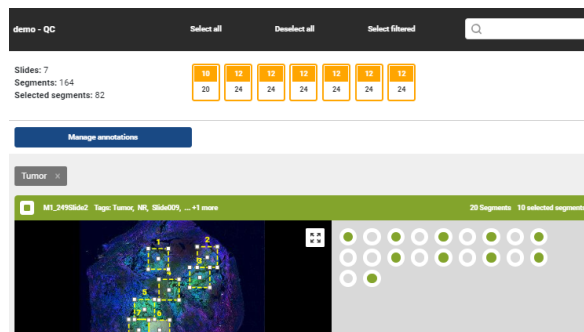

Figure 58: Segment selection, filtered by tag
- To apply this filter to the analysis, click **Select Filtered**. Alternatively, you may click **Deselect Filtered** to remove the segments associated with this tag from analysis. The selected scans and segments should change dynamically to reflect this tag choice (see Figure 58). In addition, the plot in the visualization pane will be redrawn to reflect the current selection.